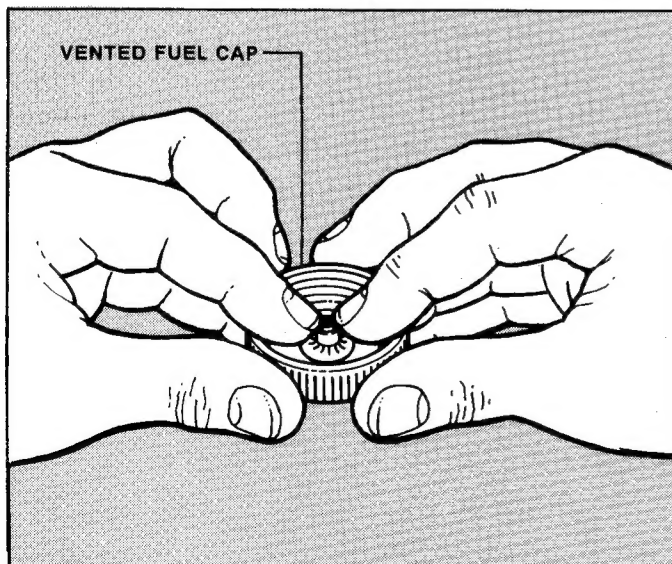

**FIGURE 3.2**
3.2 To disassemble the reed assembly from the carburetor mount remove the two screws in the forward end of the mount. Notice for re-assembly the arrangement of the outside backup plate bowed out and the inside reed plate bowed inward against the carburetor mount. See Figure 3.2.